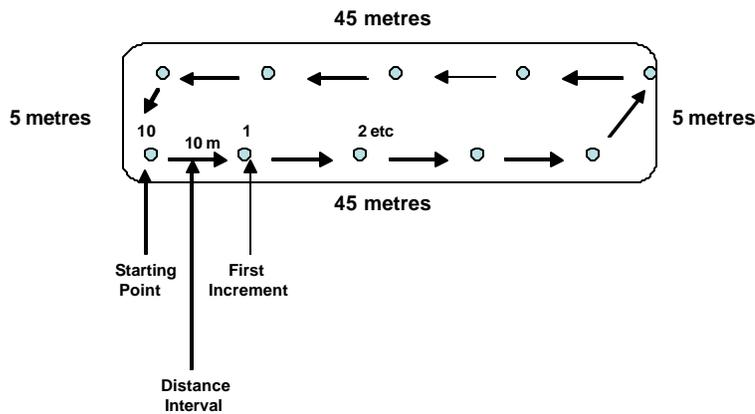

Figure 1. Overhead view of a compost pile and a schematic of increment (sample) collection including distance intervals and increment collection points
- iii. Figure 1 depicts distance intervals and increment collection points